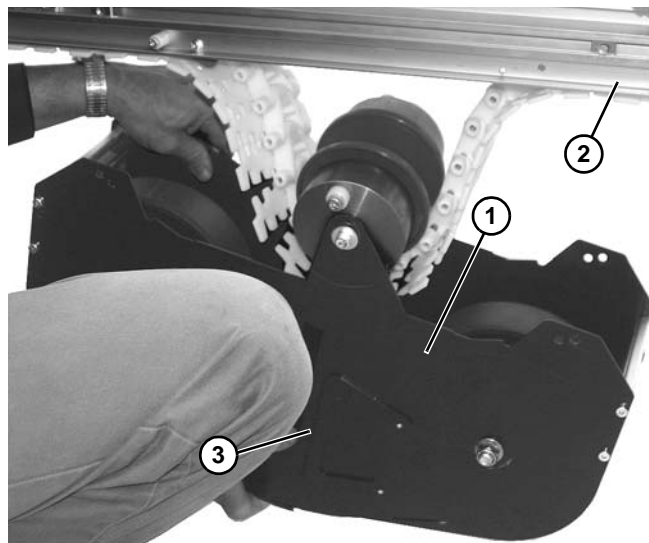

Figure 150
2. Lower weighted take up assembly (Figure 150, item 1) from conveyor (Figure 150, item 2) by disengaging locking teeth (Figure 150, item 3) on both sides.